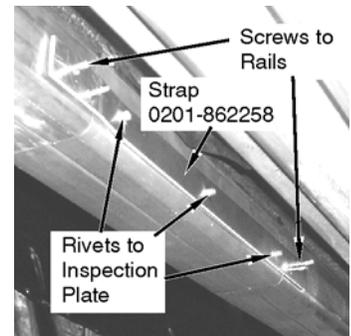

Figure 17
24) See Figure 17. The back of the lower inspection plate is shown. Secure a rail inspection plate connector (10) to the back of the lower inspection plate using 1/4 x 3/8 rivets (13). Install the lower inspection plate to the rail using #10-24 x 3/4 pan head screws (11) and #10-24 hex nuts (12). To allow periodic installation and removal, screws must be used to attach the strap/inspection plate to the rails.
26) Measure the distance from the next to last rail to the rear of the trailer. Cut the last rail using this measurement. Insert the rubber dust guard (9) and cut the rubber even with the end of the rail.